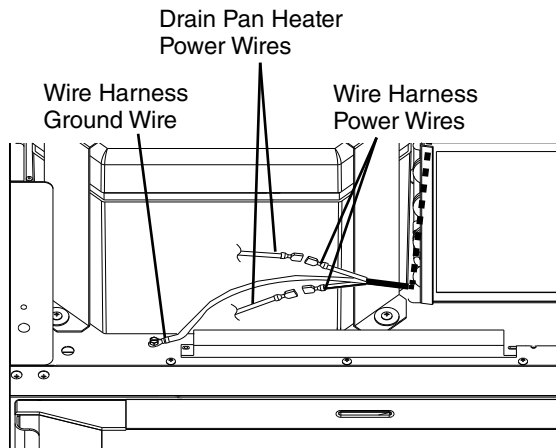

Fig. 11
- 16) Locate the labeled "Drain Pan Heater" wires located in the front area of the appliance. Once located, remove the factory wire connector caps and plug the wire harness wires provided in this kit, into the "Drain Pan Heater" wires. See Fig. 11. Connect the wire harness ground (GND) wire to the grounding screw on top of the cabinet. See Fig. 11. **NOTICE! Ground wire must be connected and secure.**